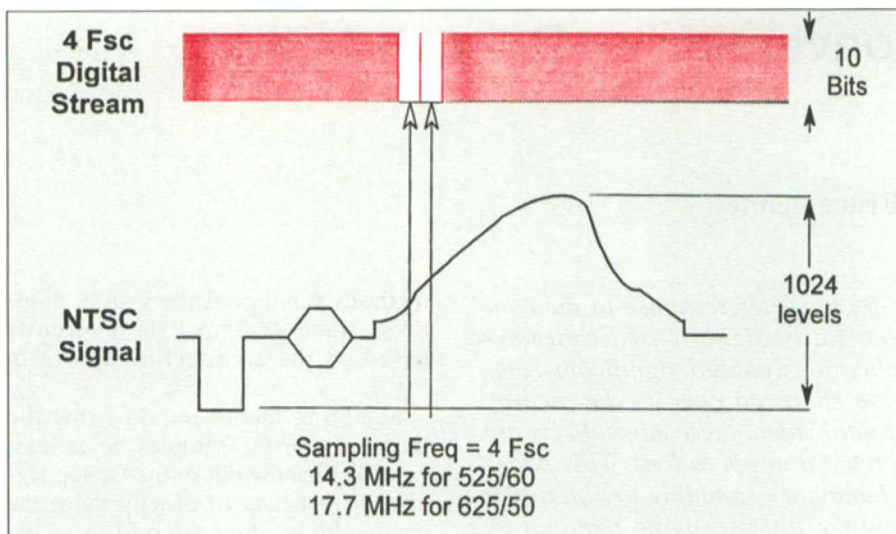

Figure 2. Composite digital structure.
A digital signal with 1 bit has *two* levels, ON and OFF. A 2-bit word represents 2 to the power 2, or *four* levels. A 4-bit signal has 2^4 (16) levels, and so on. A 10-bit digital video word contains samples from 2^{10} levels. That's 1,024 samples of video level! And this has to be done while the signal is constantly changing, so we have to take these samples pretty fast. In fact, for composite digital television, we use a *clocking* frequency of four times the subcarrier frequency (Fig. 2). The color subcarrier frequency in NTSC is 3.58 MHz and in PAL it's 4.43 MHz, but in both cases we take samples at four times the subcarrier frequency. This is where the term $4 f_{sc}$ comes from. So for an NTSC signal, we take samples at 14.3 MHz. (In PAL, $4 f_{sc}$ is 17.7 MHz.)